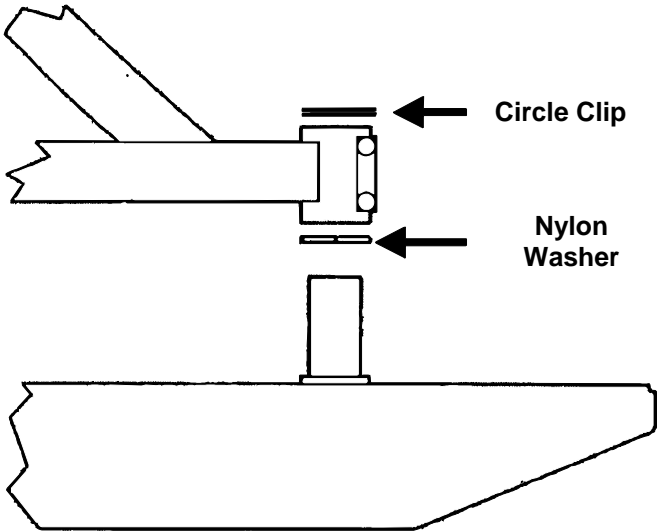

Figure 7
10. Insert Nylon Washer and install the Tire Carrier to Bumper. Once the Tire Carrier is assembled, close it and secure it with the already installed (2) 3/8"-24 x 1" Hex Head Bolt, (4) 3/8" Flat Washers, and (2) 3/8" Lock Nuts (Figure 7 & 8). Tighten hardware at this time.